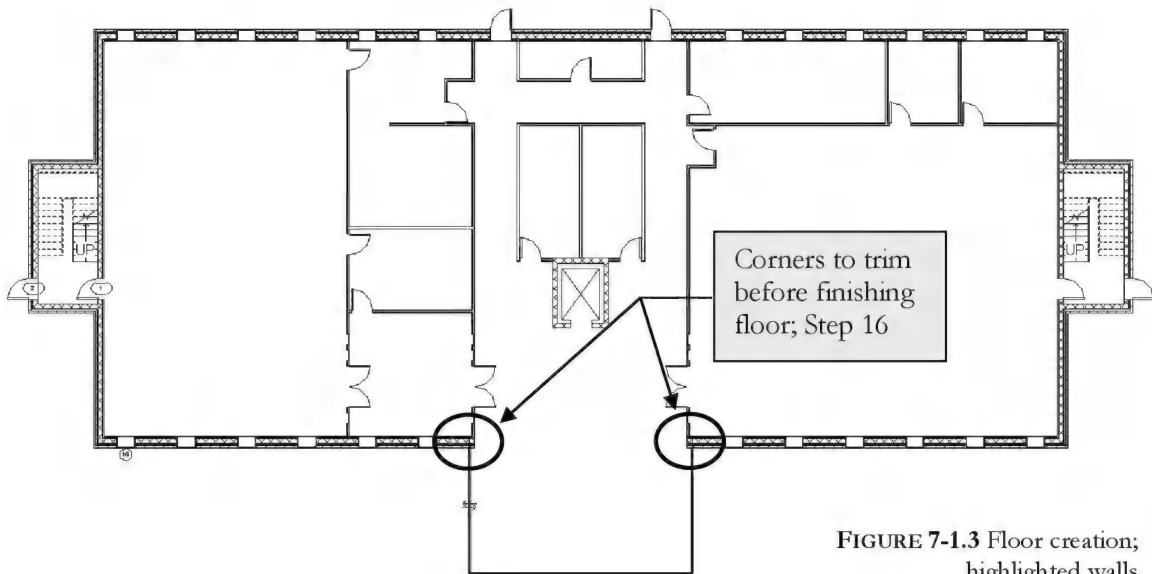

FIGURE 7-1.3 Floor creation; highlighted walls
13. Select all the exterior walls on **Level 1**; this should include the curtain wall at the atrium and the stair shafts (Figure 7-1.3).
16. Use the **Trim** tool; select the two lines leading to the corner that needs to be trimmed. Do this for both sides of the atrium (Figure 7-1.3).